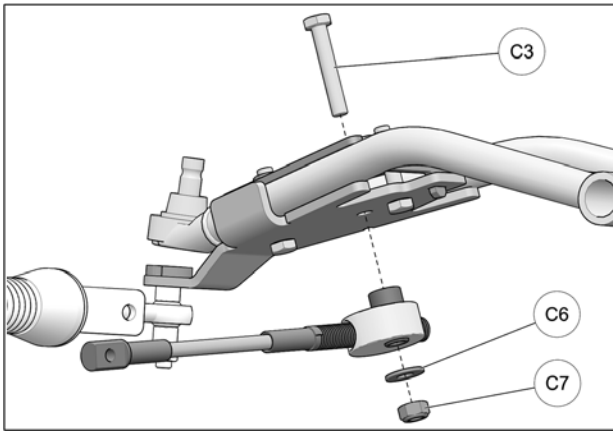

Fig. 16
- Pass bolt (C3) down through opening in bracket cover and insert it in the anchor bracket's central hole. Slip steering limiter cable assembly over bolt (C3) and use washer (C6) and nut (C7) to secure assembly to anchor bracket. Tighten nut to 50 N•m [37 lb•ft]. Refer to Fig. 16